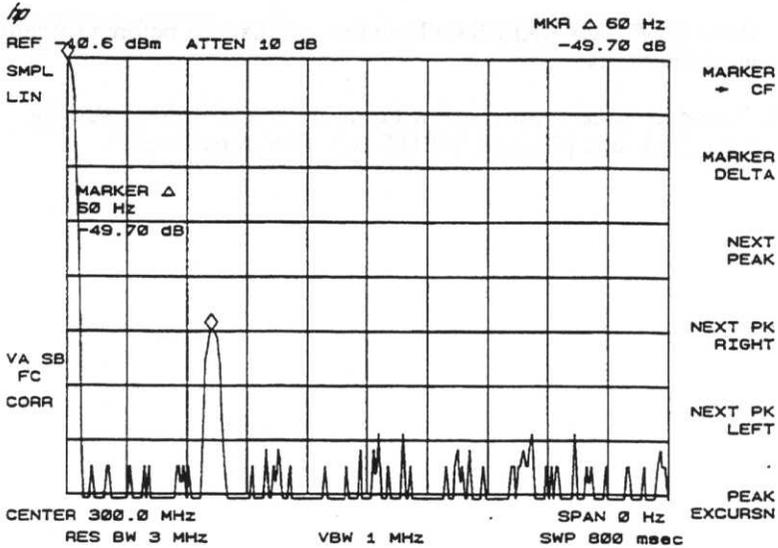

Figure 2-23
8. A marker is automatically placed on the carrier at the 0-Hz reference (at the left edge of the graticule). Press [MARKER DELTA] and turn the knob to the modulation to determine the frequency and amplitude difference from the carrier. See Figure 2-23.